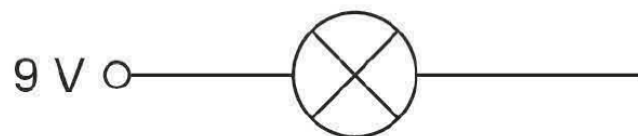

Fig. 4.2
- (ii) Complete the circuit shown in Fig. 4.2 by adding **two** SPST switches in **parallel** so that the lamp will be lit if **either** switch is closed.